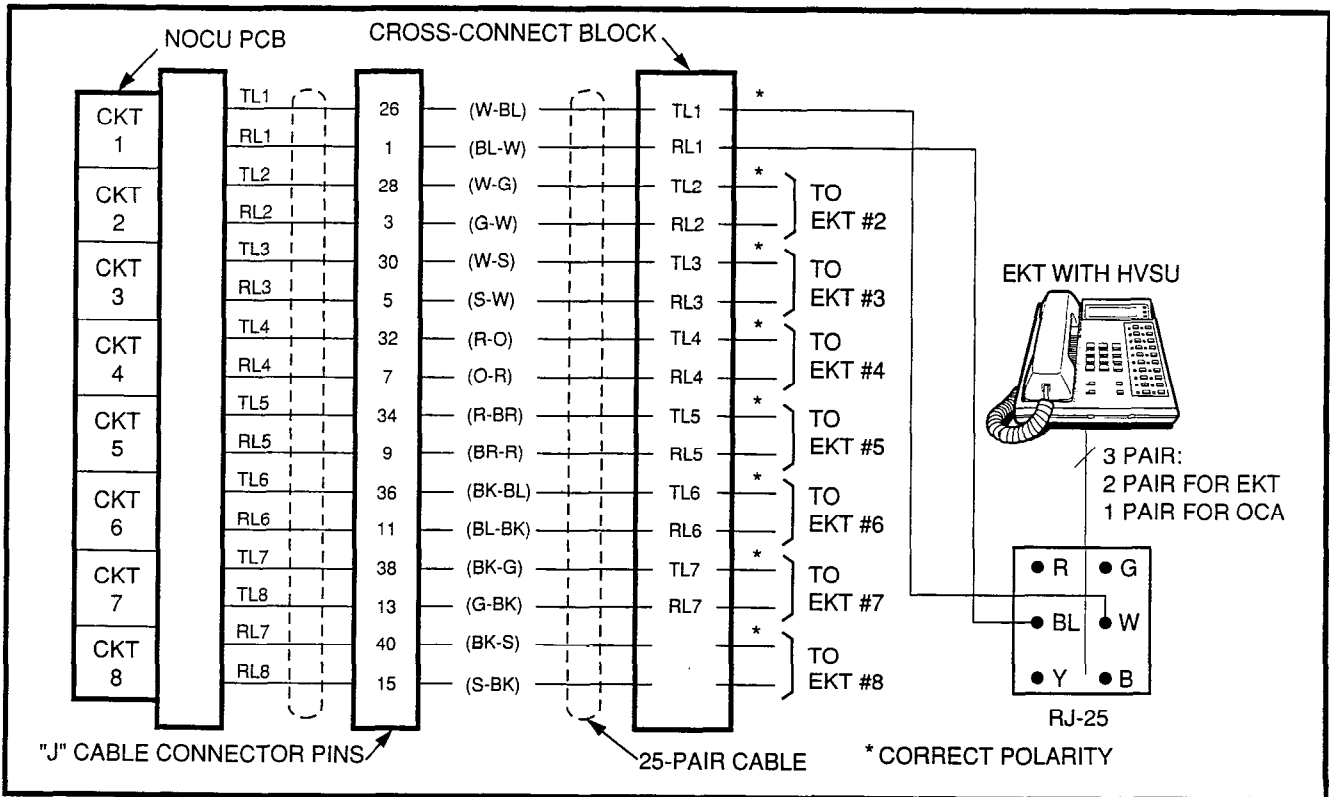

FIGURE 4-29—OFF-HOOK CALL ANNOUNCE CONNECTION (NOCU)
5.26 NOCU connection details are shown in Figure 4-29.